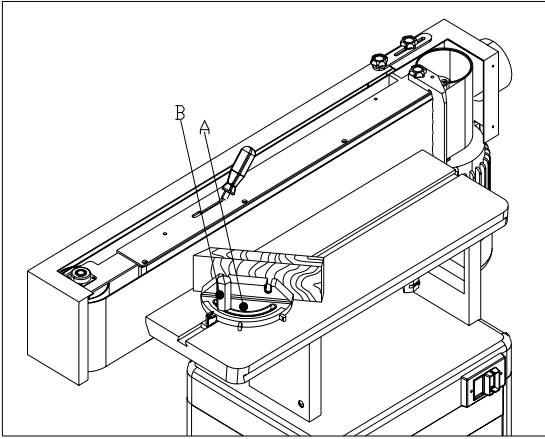

Fig: 5
1. MITER GAUGE (A) CAN BE ADJUSTED 45° - 90° AND CLAMPED BY HEX. HANDLE (B), SEE FIG. 5
2. ADJUST MITER GAUGE (A) TO GET REQUIRED ANGLE GAUGE.